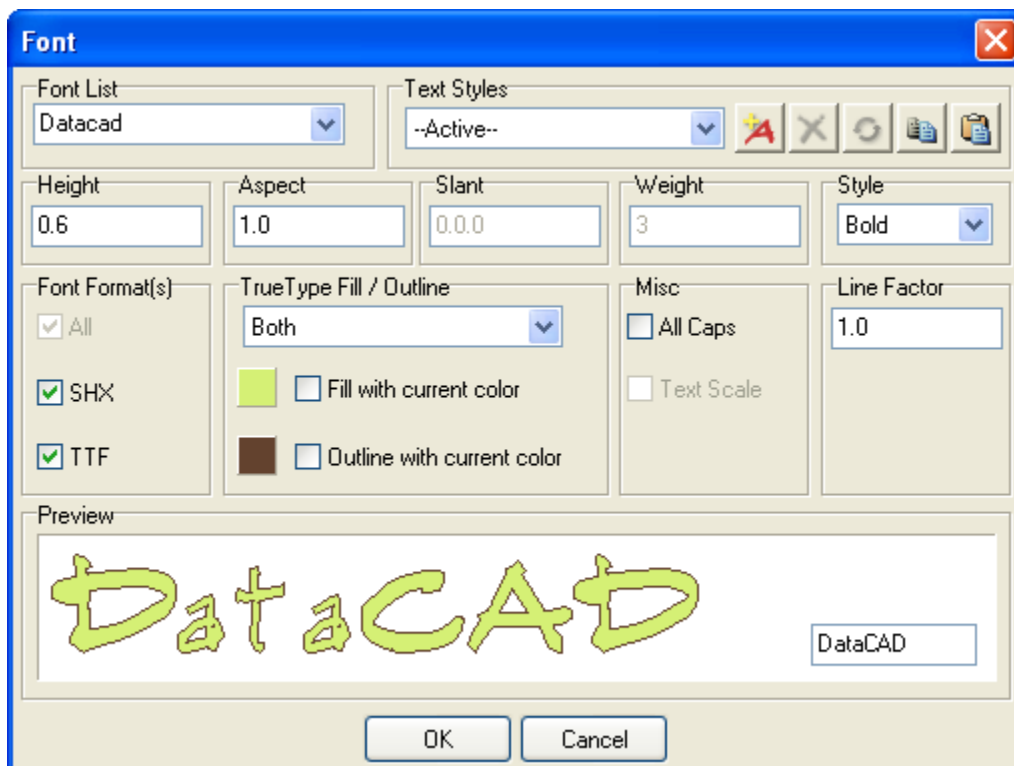

Figure 13.4: Control the appearance of TrueType fonts
2. Type something in the small box at the lower right corner of the Font Preview area. For example, in Figure 13.4, HapPenInc is the name of the Hap company that manufactures pens. The larger display shows what the text will look like, depending on the font you highlight in the FontName section of this dialog box.